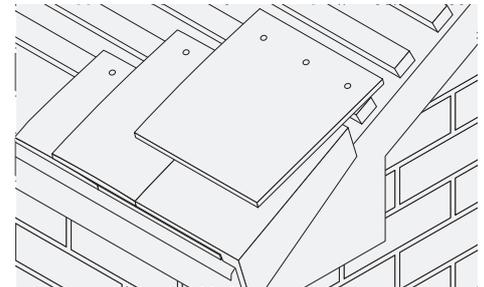

Fig. 8 - Tile-and-a-half used to break bond
- 5 Each alternate course should contain a tile-and-a-half to break bond and must be twice nailed (Fig. 8).